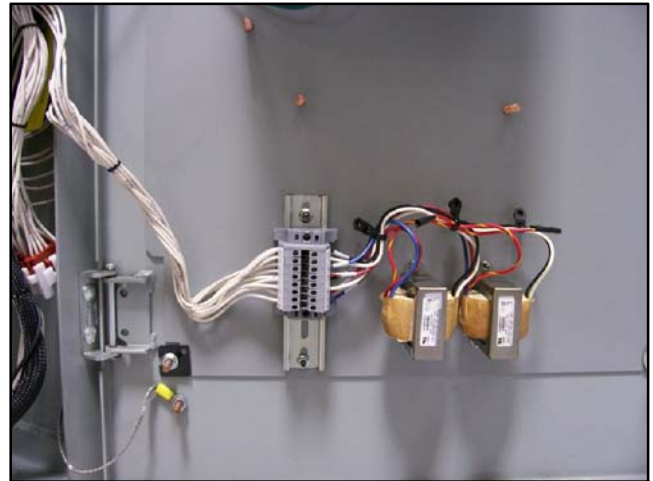
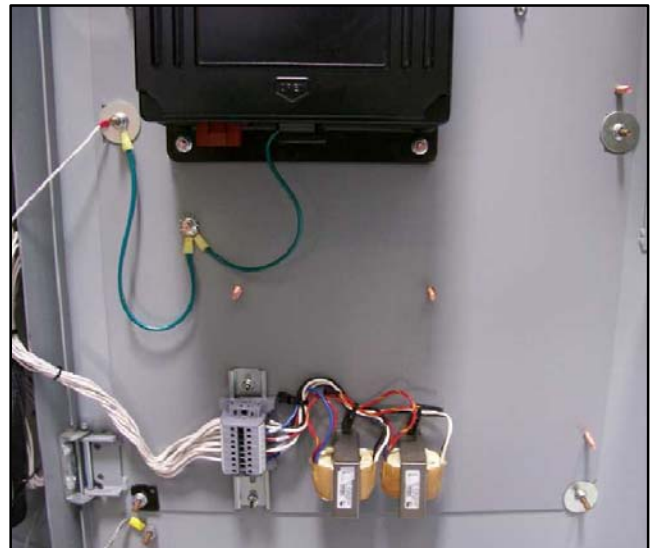

Figure 28 Transformer and Terminal Block Installation
Figure 29 Transformers and Terminal Block Installed
22. Reinstall the transformers and terminal block that were removed in step 14. See Figure 28 and Figure 29.